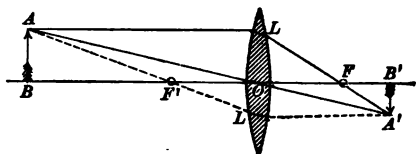

FIG. 423. — Size of real image.
The geometrical construction of images formed by lenses will indicate the size and position of these images. The method of procedure is the same as that used for spherical mirrors (section 425). If we trace two rays from any point of the object to their intersection, we have the position of the corresponding point of the image. For example, in figure 423, a ray from  $A$  parallel to the principal axis must, after refraction by the
In figure 423 the object  $AB$  was beyond the principal focus of
**450. Defects of images formed by lenses.** In figure 423 it was assumed that the real image  $A'B'$  was a straight line. But it will be seen that the point  $A$  of the object is at a greater distance from the center of the lens  $O$  than the point  $B$ , and, therefore, according to the lens equation,  $B'$  ought to be farther from the center of the lens than  $A'$ . In other words, the image is curved. This means that if a camera is equipped with a simple convex lens, and the center of the plate is sharply focused, the edges will be fuzzy, since the image does not lie in one plane. This is especially noticeable for a large object comparatively close to the lens.
In the construction of figure 423 it was assumed that all the rays coming from a point in the object are accurately refracted by the lens to one point. But as a matter of fact the rays that strike the outer portions of a lens are refracted more strongly than the rays which fall on the central portion of the lens, and so come to a focus nearer to the lens. This lack of exact concurrence is called **spherical aberration**.